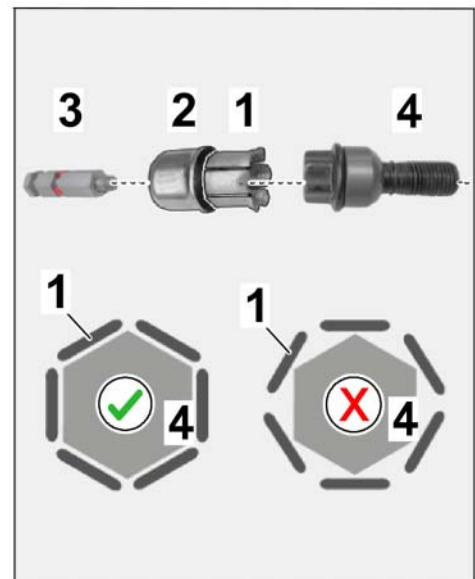

Figure 4
2.1.1 Install clamping piece (⇒ *Figure 4 -1-*) in clamping sleeve (⇒ *Figure 4 -2-*).
2.1.2 Loosely pre-install spacer bolt (⇒ *Figure 4 -3-*) in clamping sleeve (⇒ *Figure 4 -2-*).
2.1.3 Install assembly (spacer bolt, clamping sleeve and clamping piece) on wheel bolt, paying attention to the "hexagon contour" (slot on wheel bolt edge) of the wheel bolt (⇒ *Figure 4 -bottom-*).